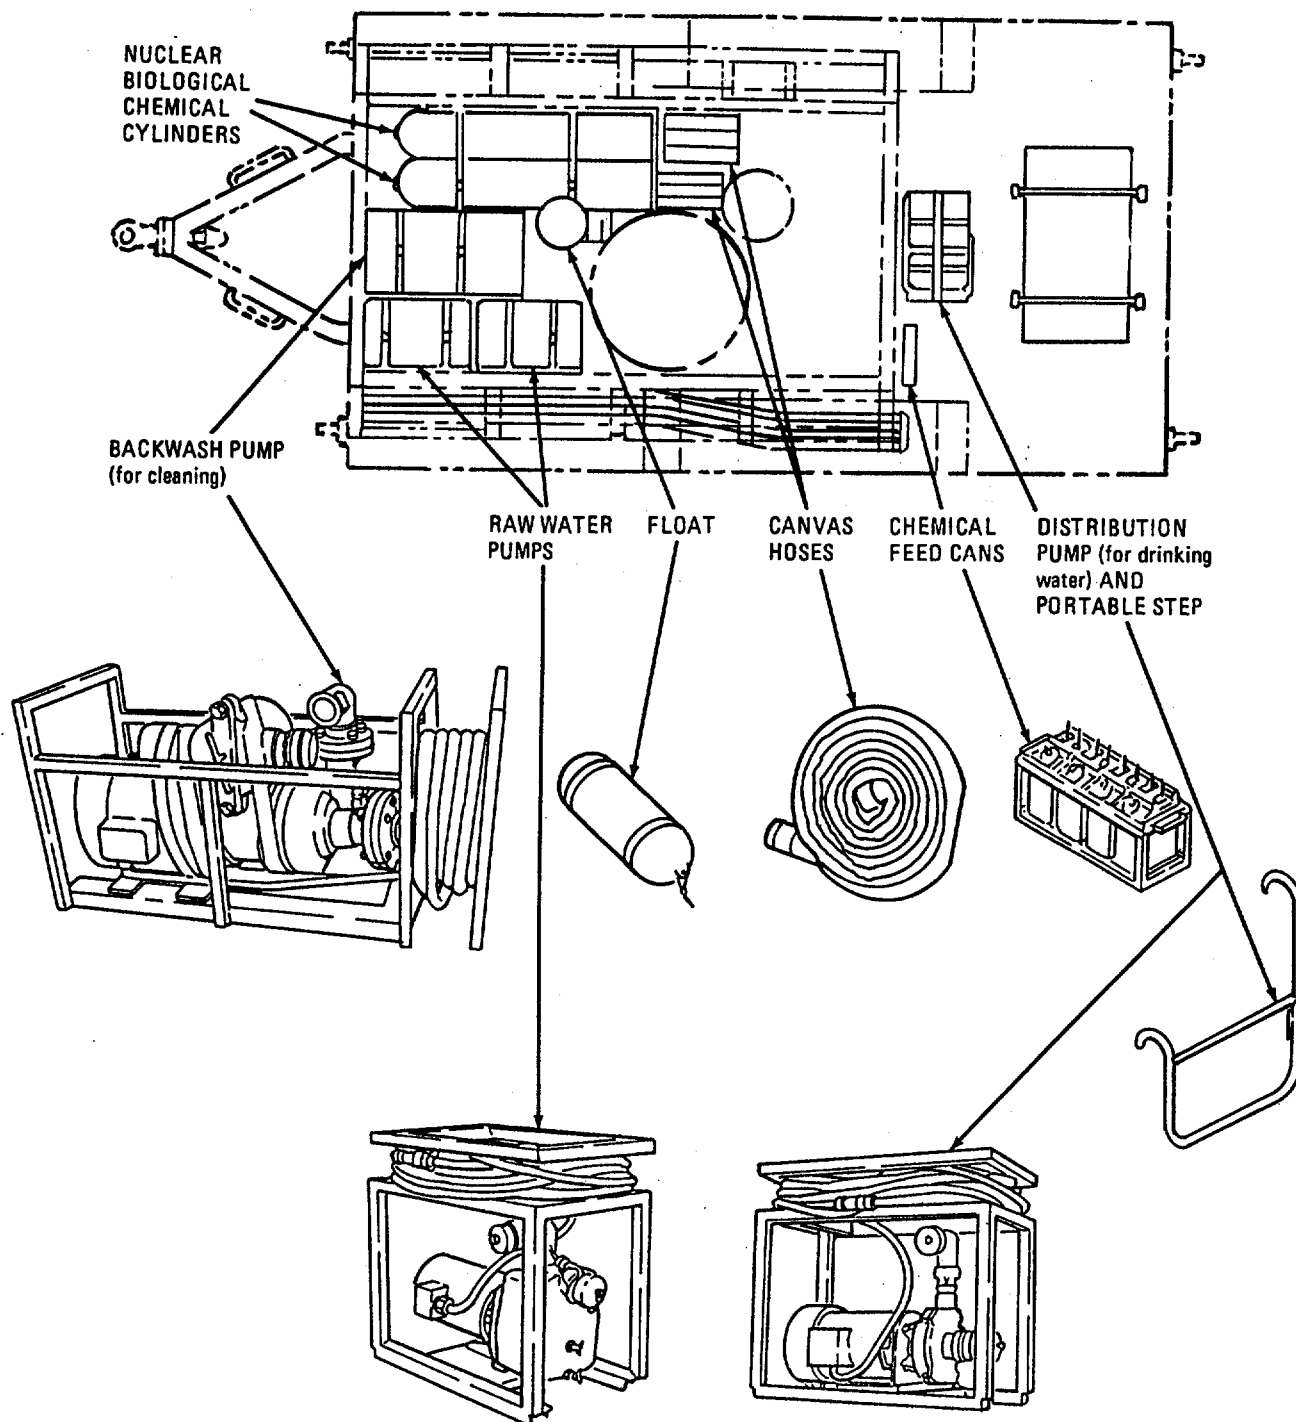
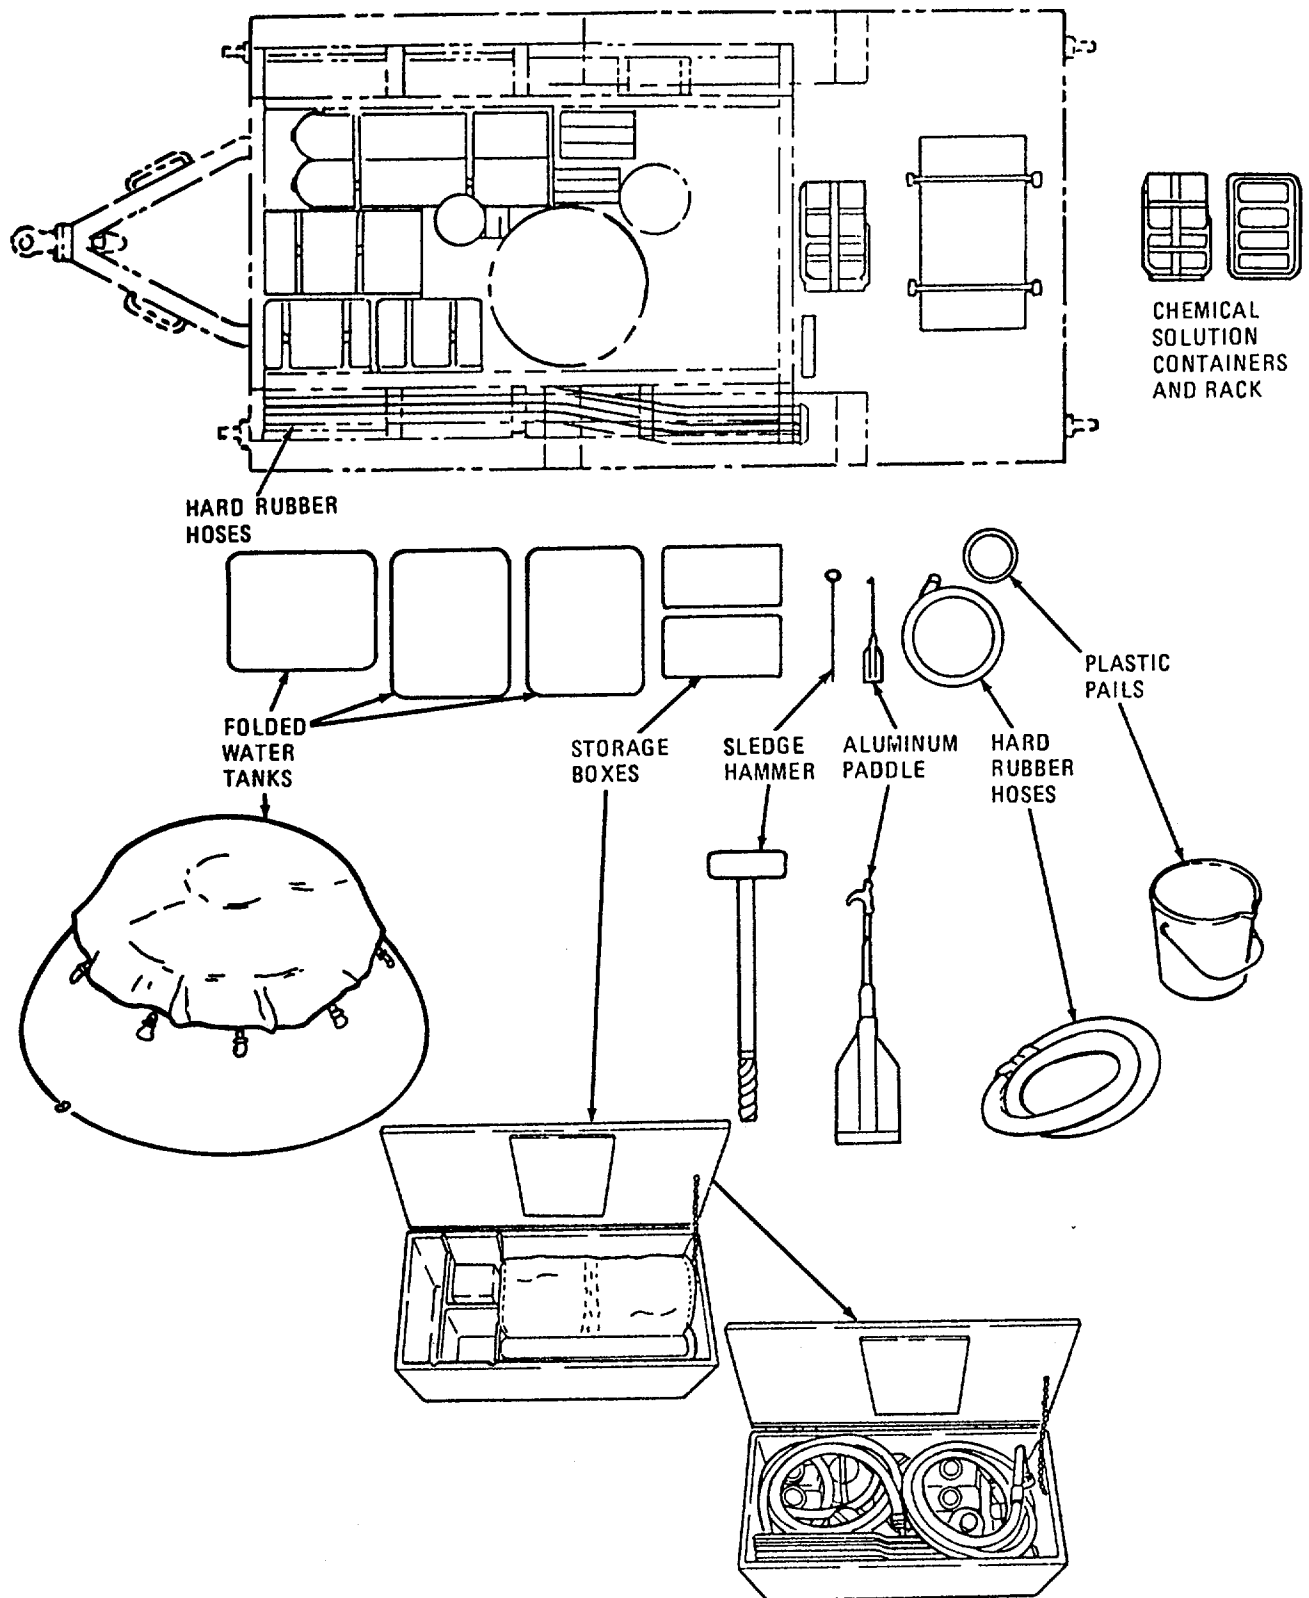

FIGURE 1-5. TOP VIEW OF ROWPU WITH PUMPS (ARMY).
FIGURE 1-7. TOP VIEW OF ROWPU WITH OPERATING EQUIPMENT REMOVED (ARMY).
b. Second Layer. In the second layer you will find two raw water pumps and a backwash pump (figures 1-5 and 1-6). The pumps are covered with canvas and strapped down. (ARMY) A distribution pump is located at the rear of the unit next to the generator, but is not shown here (AF and MC are packed separately). Army ROWPU includes a portable step strapped down with distribution pump. On the right side are 1-1/2 inch and 2-inch diameter discharge (canvas) hoses, rolled-up. A raw water float is in the center of the ROWPU next to one nuclear, one biological, chemical (NBC) cylinders. Figures 1-7 and 1-8 show ROWPU with operating equipment removed.